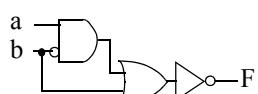

Figure 2.78
- 2.32 Create a Boolean equation representation of the digital circuit in Figure 2.78.